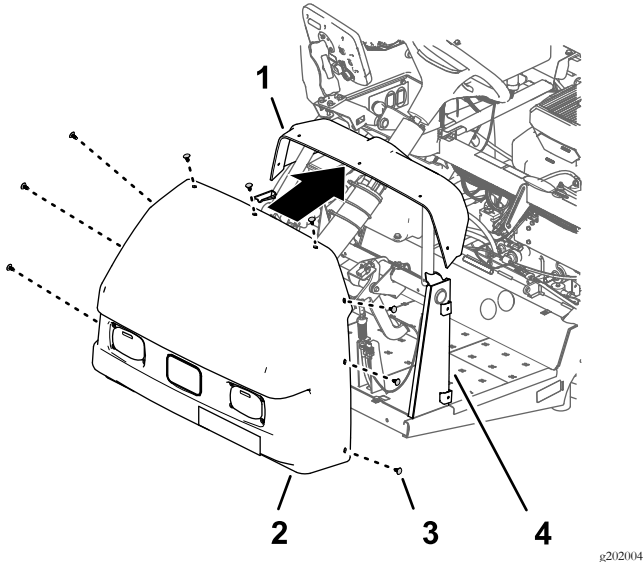

Figure 214
- Align the hood holes in the hood with the holes in the dash panel and frame of the machine (Figure 214).
- Secure the hood to the dash and frame with 9 push-in fasteners (Figure 214).